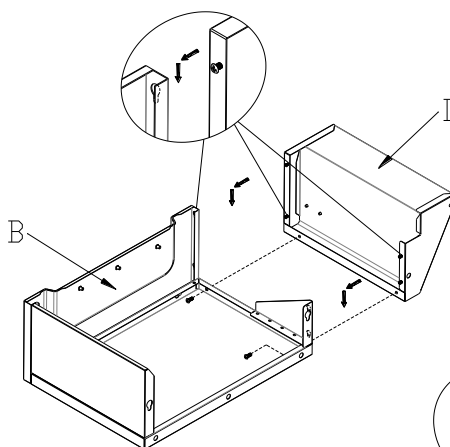

Fig.1
- Loosen but do not remove the four 5/32 screws that are located on the left side shelf control panel (D).
- Align the key holes on the side shelf (B) .Hang the side shelf control panel (D) to the side shelf (B) and tighten the screws loosen in step a.
- With the two screws removed in step b insert them from the side shelf control panel (D) to the side shelf (B), then tighten. See Fig.1.